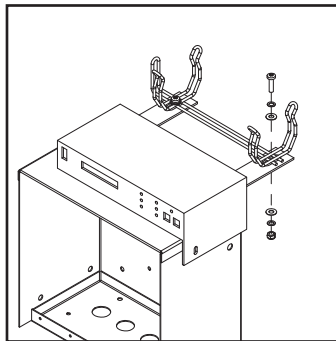

FIGURE 3
8. Using the included hardware; 10-32 x 1" screw (2), #10 washer (4), .25" washer (4), nylock nut (2), install the new manual holder bracket onto the two black brackets installed in step 4. **Note: Make sure the open end of the manual holder bracket is facing the right side of the control box.** SEE FIGURE 3.